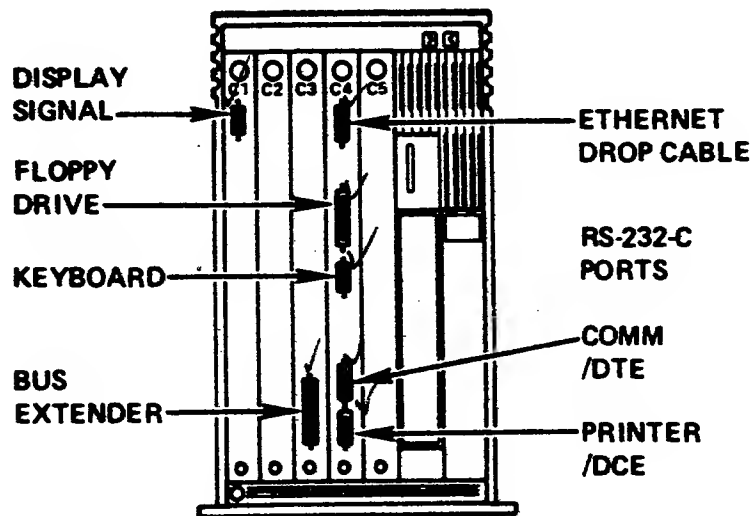

Figure 2-14. Connector Locations on Processor
3. Connect the display signal cable and keyboard cable to the processor unit circuit boards as indicated in Figure 2-14, and tighten the thumbscrews until they are finger tight. (All cables are labeled on their respective plugs.)